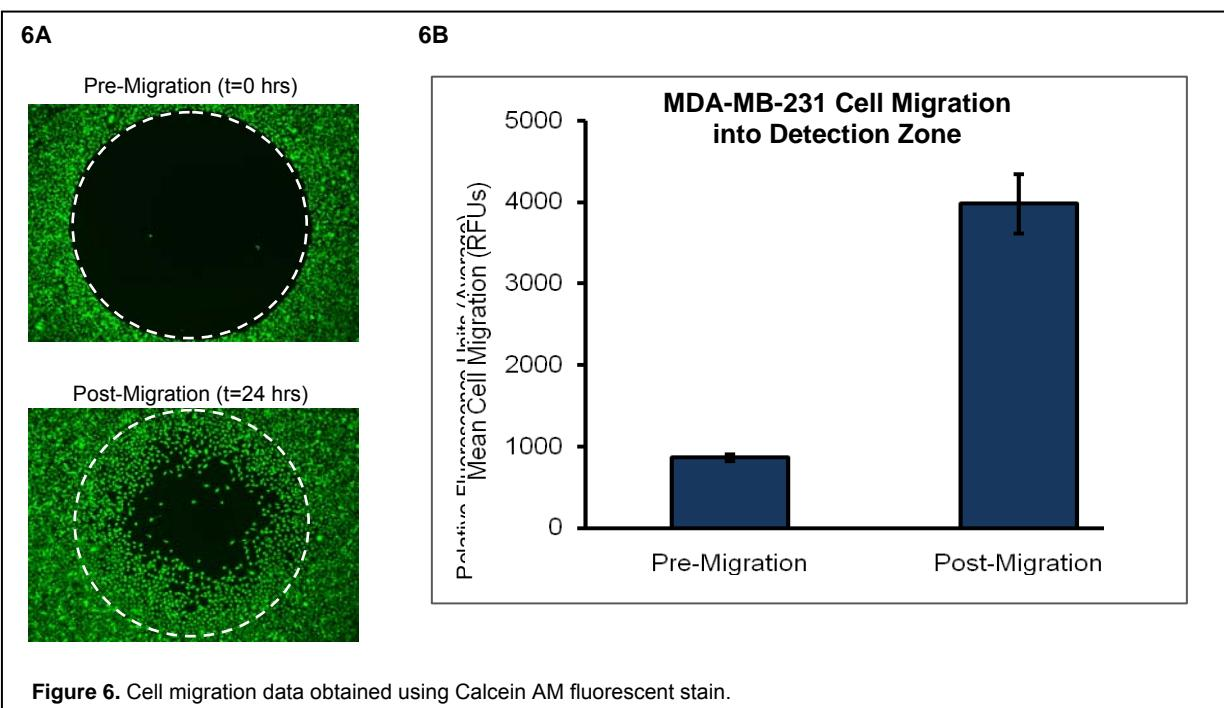

Figure 6. Cell migration data obtained using Calcein AM fluorescent stain.
- Sample data using a fluorescent stain and microplate reader analysis are shown in Figure 6. Collagen I coated wells populated with Oris™ Cell Seeding Stoppers were seeded with 25,000 MDA-MB-231 cells/well (i.e., 100 μ l of 2.5×10^5 cells/mL) and the plate was incubated for 6 hours. The stoppers were then removed from test wells, but remained in place in the pre-migration reference wells. The seeded plate was incubated in a humidified chamber for 24 hours. After 24 hours, stoppers were removed from reference wells and all wells were fluorescently stained with Calcein AM for quantification using a microplate reader. The images below (6A), captured without a detection mask in place, illustrate representative data from pre-migration ($t=0$ hrs) and post-migration ($t = 24$ hrs) wells (dashed outlines depict size/location of detection mask). The graph (6B) depicts the average fluorescence signal +/- SD in the detection zones for each condition ($n=$ at least 8 wells/condition).